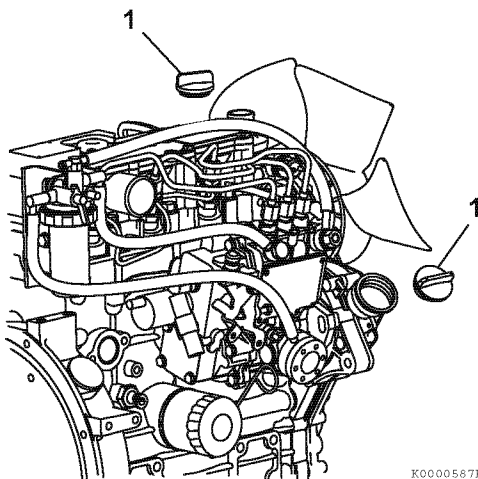

Figure 5-7
4. Remove the oil filler cap (**Figure 5-7, (1)**) to vent the engine crankcase and allow the engine oil to drain more easily.